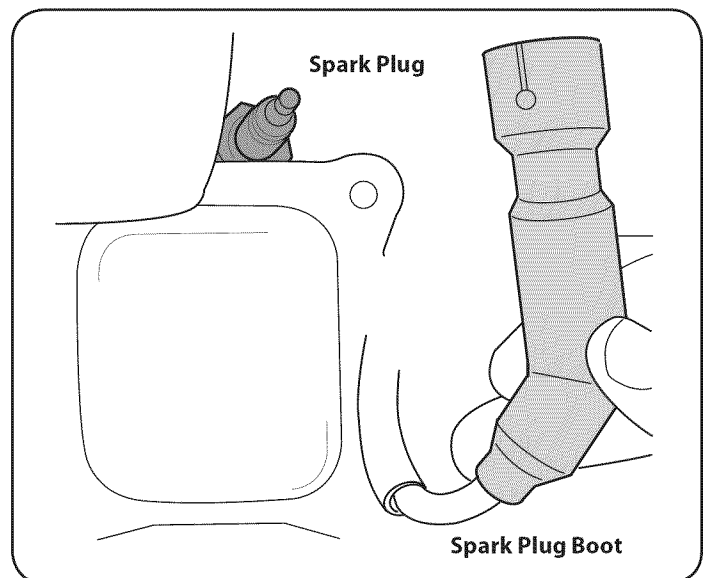

Figure 16
- Remove the spark plug boot and use a spark plug wrench to remove the plug. See Figure 16.